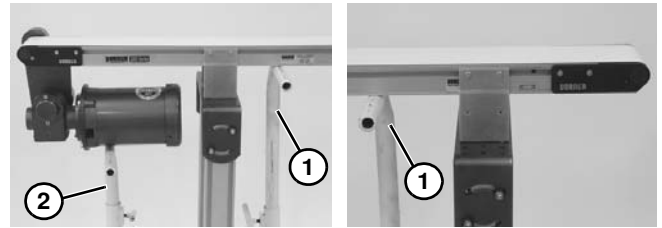

Figure 53
- Ensure temporary support stands (**Figure 53, item 1**) are placed at both ends of the conveyor. Place an additional support stand under the drive motor (**Figure 53, item 2**), if equipped. See WARNING.